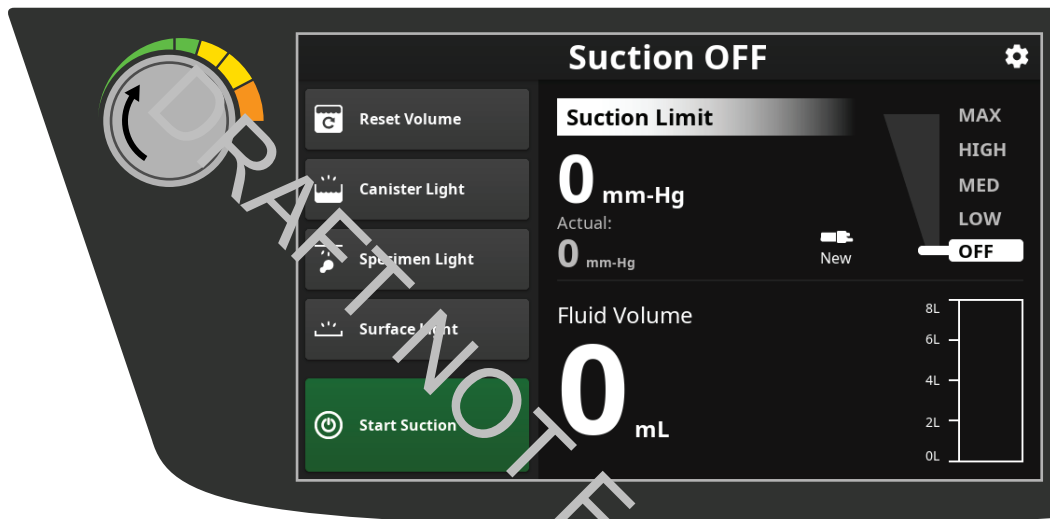

Figure 25 – To Start and Adjust Suction
1. While viewing the main control panel display, turn the suction control dial to the level of suction required (Figure 25).